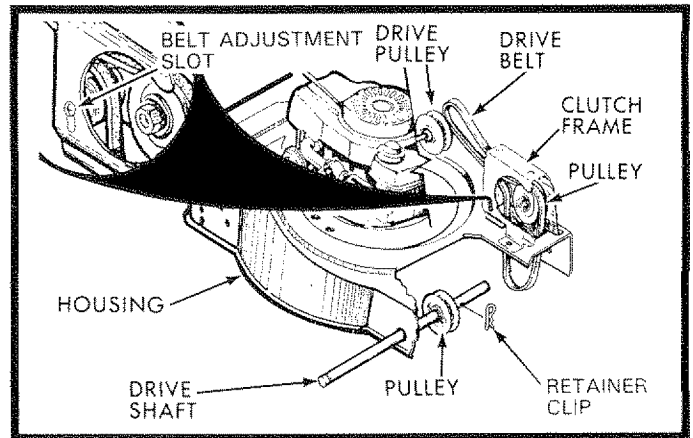

FIG. 13
- Remove Belt from Drive Pulley (See Fig. 13).
- While holding Pulley slide Drive Shaft to the right until Belt can be removed from hole in Housing (See Fig. 13)
- Pull Belt free from Pulley and take out of Clutch Frame (See Fig. 13).
If the Clutch Lever has reached the top of the slot in the Clutch Frame and the Belt is still loose, move Pulley to next position up in the Belt Adjustment Slot (See Fig. 13) and repeat steps 1 through 4 above.